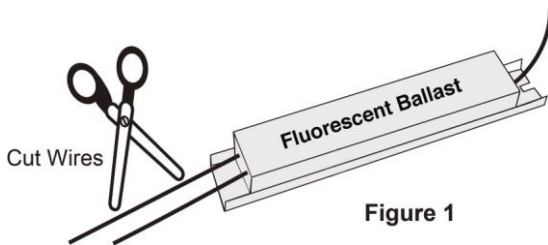

Figure 1
Step 5: Cut the line and neutral wires at the ballast, as well as all remaining wires at the ballast (see **Figure 1**).